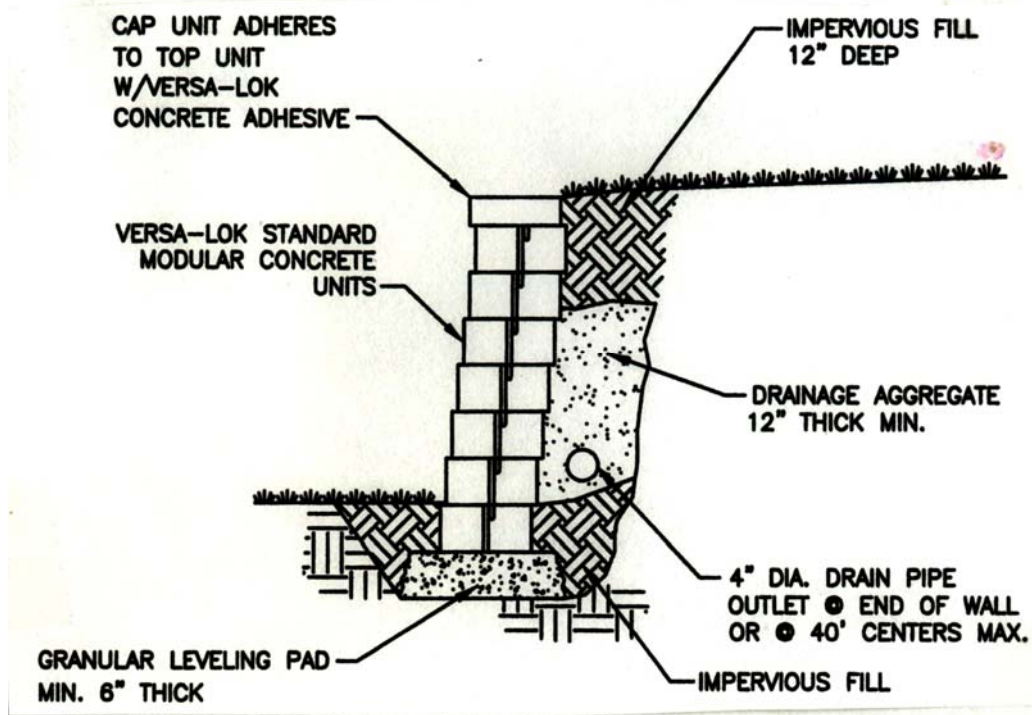
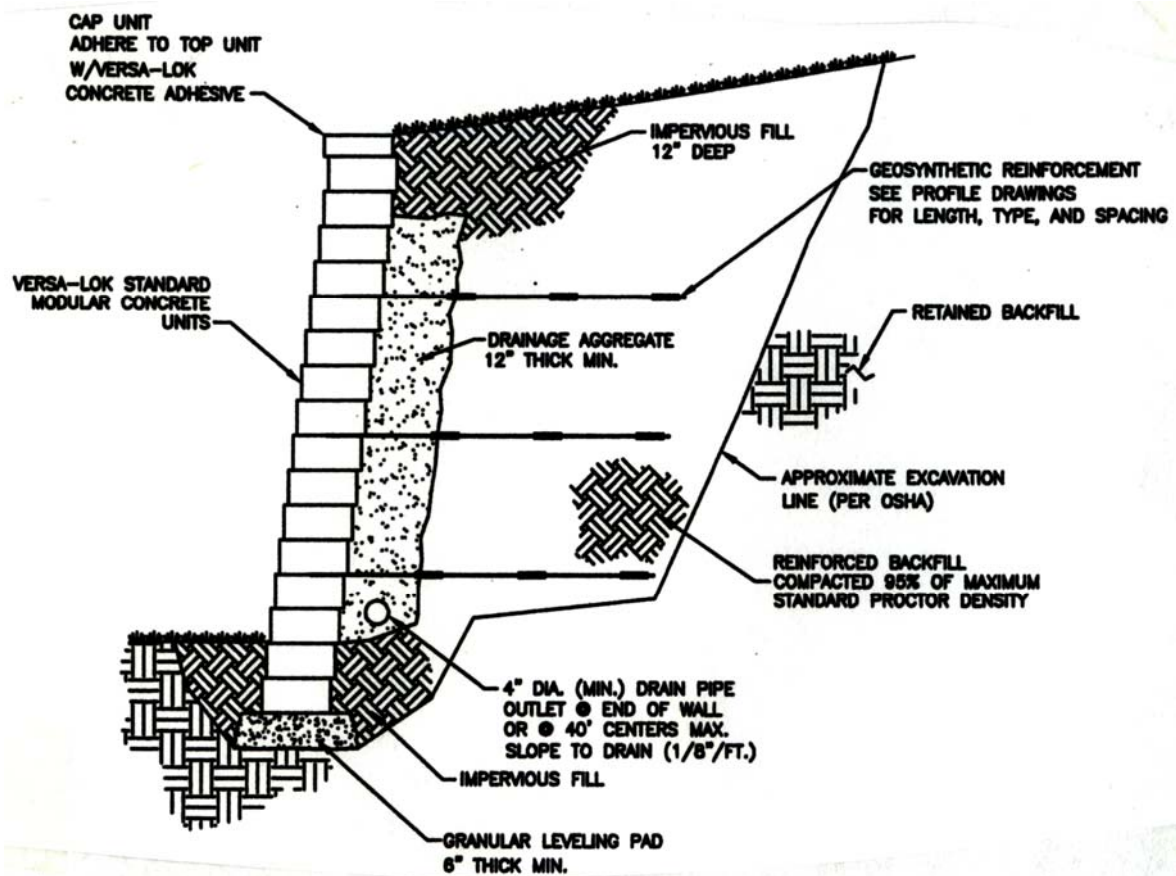

Figure 8. Components and construction of a **non-reinforced** retaining wall.
Figure 9. Components and construction of a **reinforced** retaining wall.
9. **Completed Wall Illustrations** – Figure 8 and Figure 9 illustrate the proper components and construction of non-reinforced and reinforced retaining walls respectively.
5. If the wall is going to be taller than three feet, perforated drain tile should be placed behind the base course and then covered with drainage aggregate (Figures 8 and 9).
7. After two or three courses of stone are stacked, backfill the wall with drainage aggregate. To do this, lay the geo-textile fabric on the soil behind the wall, and place the drainage aggregate between the wall and the fabric (Figures 8 and 9). The aggregate should be at least eight inches from the wall to the fabric. Compact the aggregate thoroughly. It may be necessary to fill soil in behind the fabric as the stone is added.